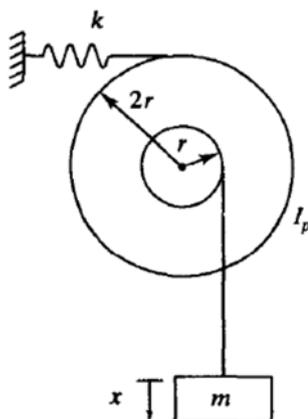

Figure 3
- a. Find the equation of motion and also find the natural frequencies of the system shown in figure 3